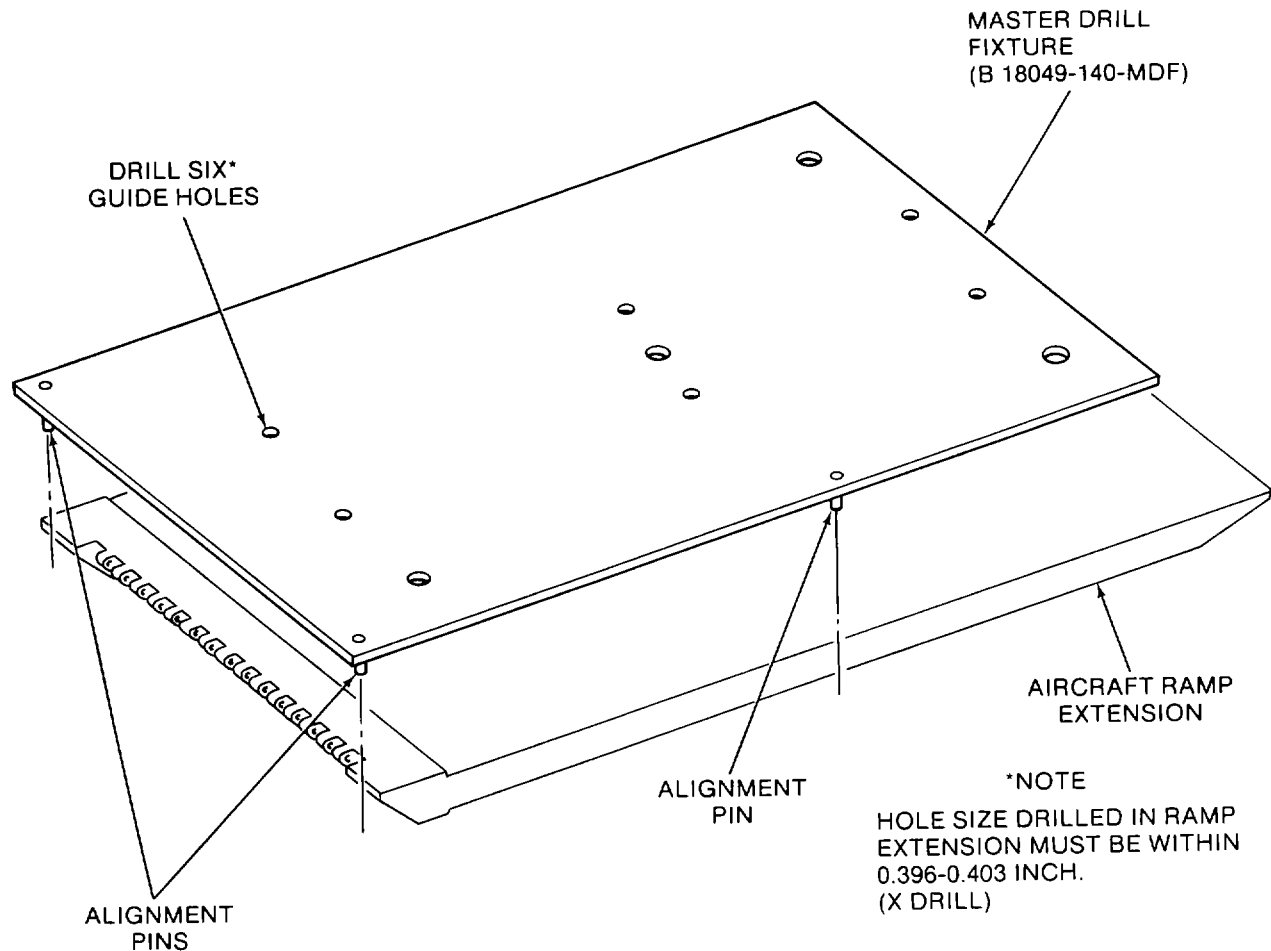

Figure 2-2. Location of Master Drill Fixture
(2) Remove the aircraft ramp extensions from the ramp. Locate the master drill fixture, Part No. B 18049 140-MDF, over one of the ramp extensions, as shown in Figure 2-2. Make sure the alignment pins are snug against the ramp extension. Use at least two C-clamps to hold the fixture in position.
(3) Drill first two holes (0.396 to 0.403 inch diameter). Drill one at each end, using the fixture drill guide holes (Figure 2-2).
(4) Repeat steps 2 and 3 for remaining ramp extension.